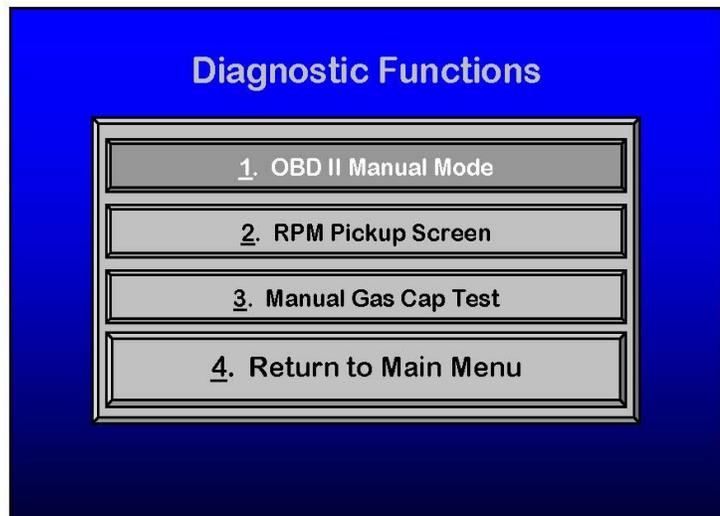

Figure 11 Diagnostic Functions Menu
1. Figure 11. Allows access for manually connecting to an OBDII Equipped vehicle. Data Available depends on the connected vehicle which can include displaying fault codes, resetting fault codes, readiness indicators, O₂ sensor data stream and fuel system data stream.